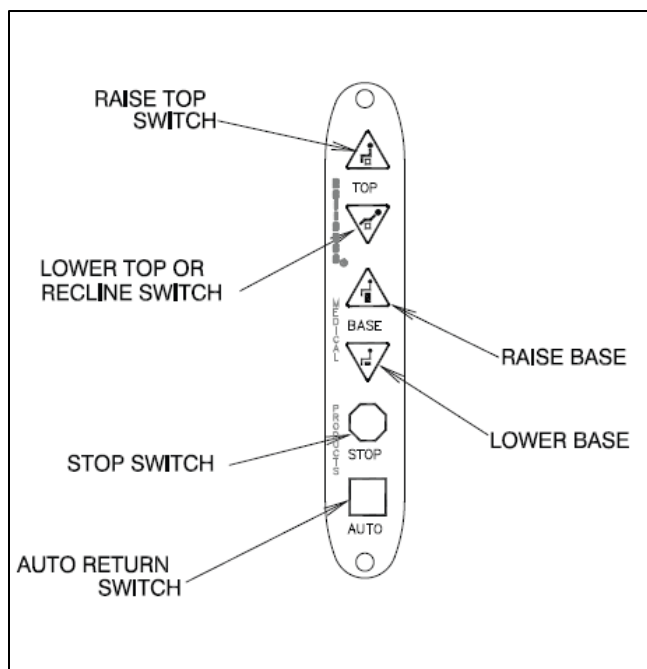

FIGURE 2
- The chair lift may be raised or lowered by Membrane Switches on either side of the chair back (Figure 2).
3.1.1. Depressing the STOP switch on either side of the chair back will STOP ALL movement of the chair. The STOP switch is shaped like a stop sign and may be either RED or ORANGE in color. It is located above the text "STOP". (Refer to Figure 2). The STOP switch is also
- The chair top may be raised or reclined by Membrane Switches on either side of the chair back (Figure 2).
The chair has a built-in Safety/Shutdown feature. This feature causes the chair to shutdown or become inoperable. This feature prevents unauthorized use of the chair (See Figure 2).
4.2. Individual Programming of the RAISE TOP, RECLINE TOP, RAISE BASE, and LOWER BASE switch located on the Chair Back or Footswitch (See Figures 2 & 3)